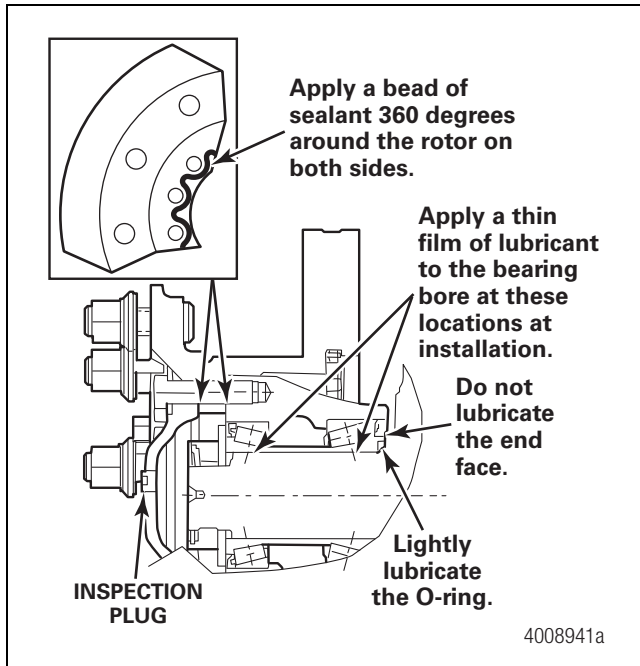

Figure 6.17
7. Apply a bead of anaerobic sealant such as Loctite® 518 Gasket Eliminator 360 degrees around the rotor on both mating surfaces and on the inside of the bolt circle. Figure 6.17. You must apply the sealant before you assemble the rotor and wheel adapter to prevent moisture from entering into the bearing. Do not use any type of gasket sealant other than anaerobic sealant.